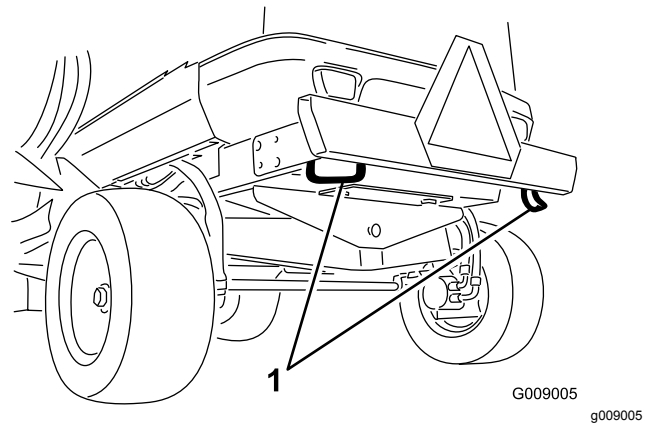

Figure 61
**Rear of the machine**—on the bumper (Figure 61)